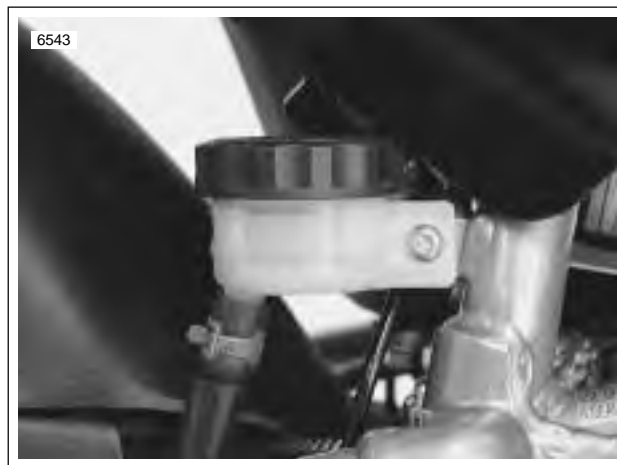

Figure 2-36. Remote Reservoir
5. See Figure 2-36. Detach remote reservoir.
1. See Figure 2-36. Connect remote reservoir.
7. Figure 2-36. With motorcycle in a level position, check that brake fluid is between the upper and lower marks on reservoir. Add **D.O.T. 4 BRAKE FLUID** if necessary. Be sure gasket and cap on reservoir fit securely.